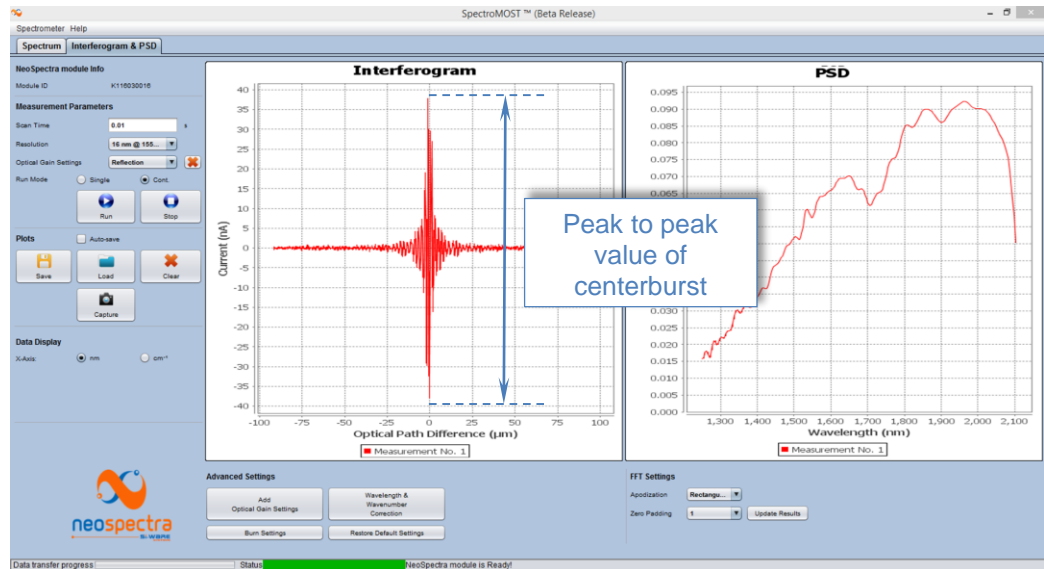

Figure 6: Monitoring interferogram’s peak to peak on SpectroMOST to optimize the power coupling
- The plots will keep being refreshed. Keep monitoring the peak to peak value of the interferogram's center burst (see Figure 6) while slightly adjusting the distance between the probe and spectralon inside the holder.